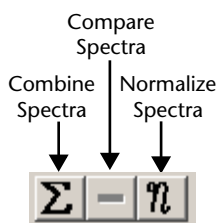
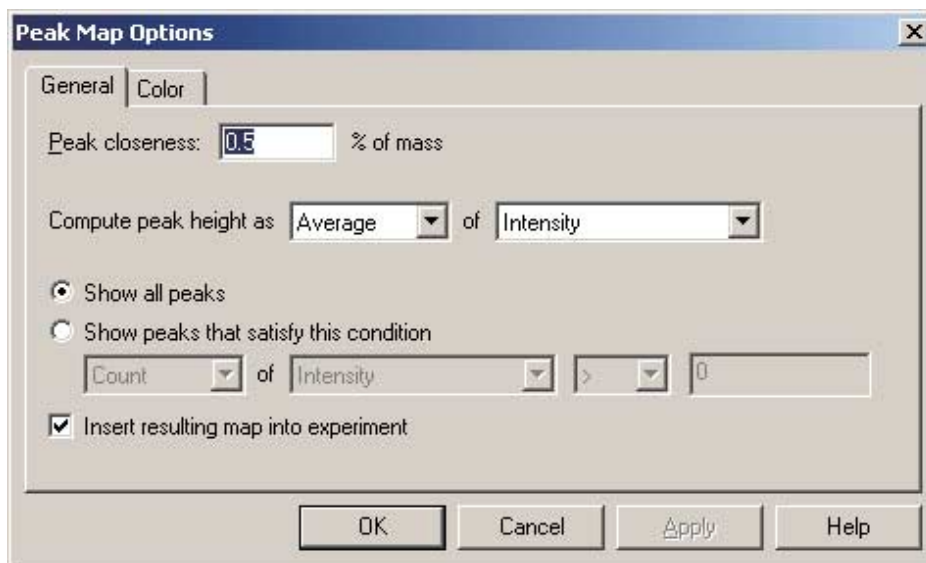
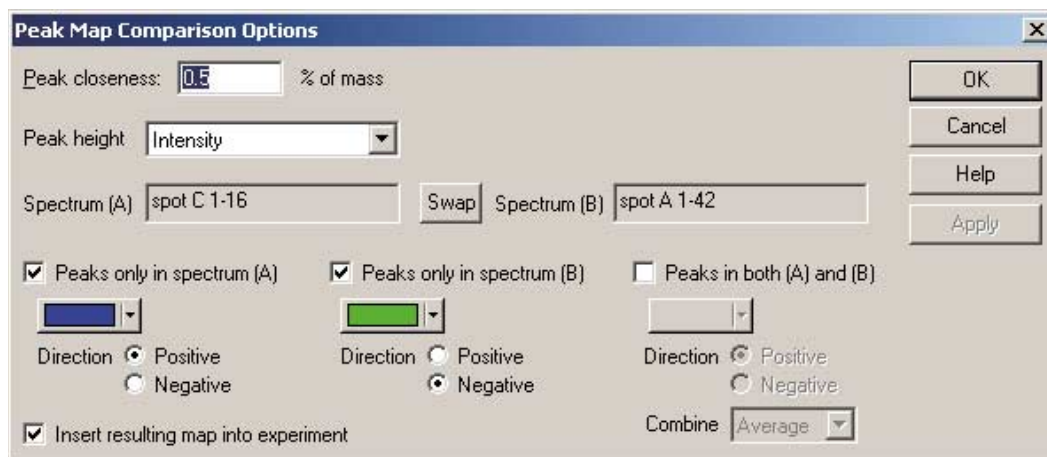

Figure 5-28: The **Combine Spectra**, **Compare Spectra**, and **Normalize Spectra** buttons.
Figure 5-29: The *Peak Map Options* dialog.
Figure 5-30: The *Peak Map Comparison Options* dialog.
2. Click the **Combine Spectra** button (refer to Figure 5-28), or select **Combine Spectra...** from the **Experiment** menu. The **Peak Map Options** dialog will open (Figure 5-29).
2. Click the **Compare Spectra** toolbar button (refer to Figure 5-28), or select **Compare Two Spectra...** from the **Context** menu. The **Peak Map Comparison Options** dialog will open (Figure 5-30).